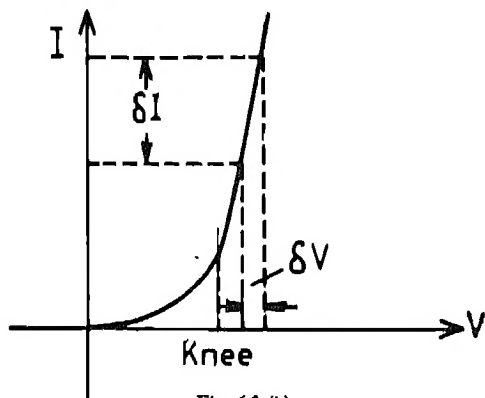

Fig. 6.2 (b)
4. Plot a graph between V and I . You get the forward characteristics of the diode as shown in Fig. 6.2 (b).